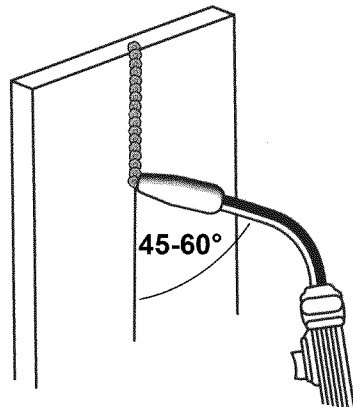

Figure 16. Vertical Position
3. The **VERTICAL POSITION** (Figure 16) is the next most difficult position. Pulling the torch from top to bottom may be easier for many people, but in some instances it can be difficult to prevent the puddle from running downward. Pushing the torch from bottom to top may provide better puddle control and allow slower rates of travel speed to achieve deeper penetration. When vertical welding, angle B (see **HOLDING THE TORCH** - p.20) is usually always kept at zero, but angle A will generally range from 45 to 60 degrees to provide better puddle control.